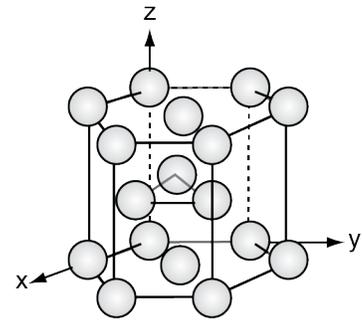

Figure C36. The HCP unit cell.
E33. (a) The cleavage-plane (the plane of easy fracture) in the HCP structure is the (001) plane. Mark it on Figure C36.